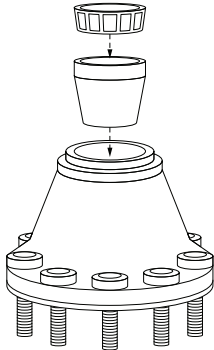

Figure 3
- 4.) For steer hubs, install the tubular cone spacer with the tapered end down (see Figure 3).